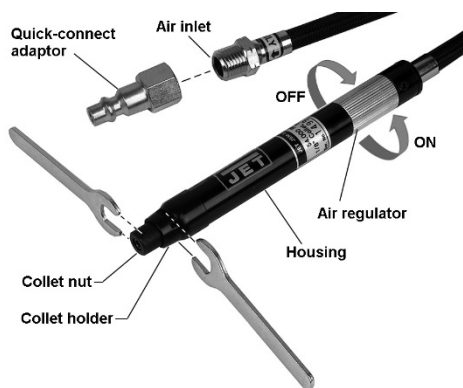

Figure 1
1. An adaptor for a quick connect is provided. If desired, screw it onto the air inlet (Figure 1).
3. Rotate collet nut (Figure 1) until a wrench can be placed in the notch of collet holder. Keep wrench stationary on collet holder. Place second wrench over collet nut and turn to loosen collet.